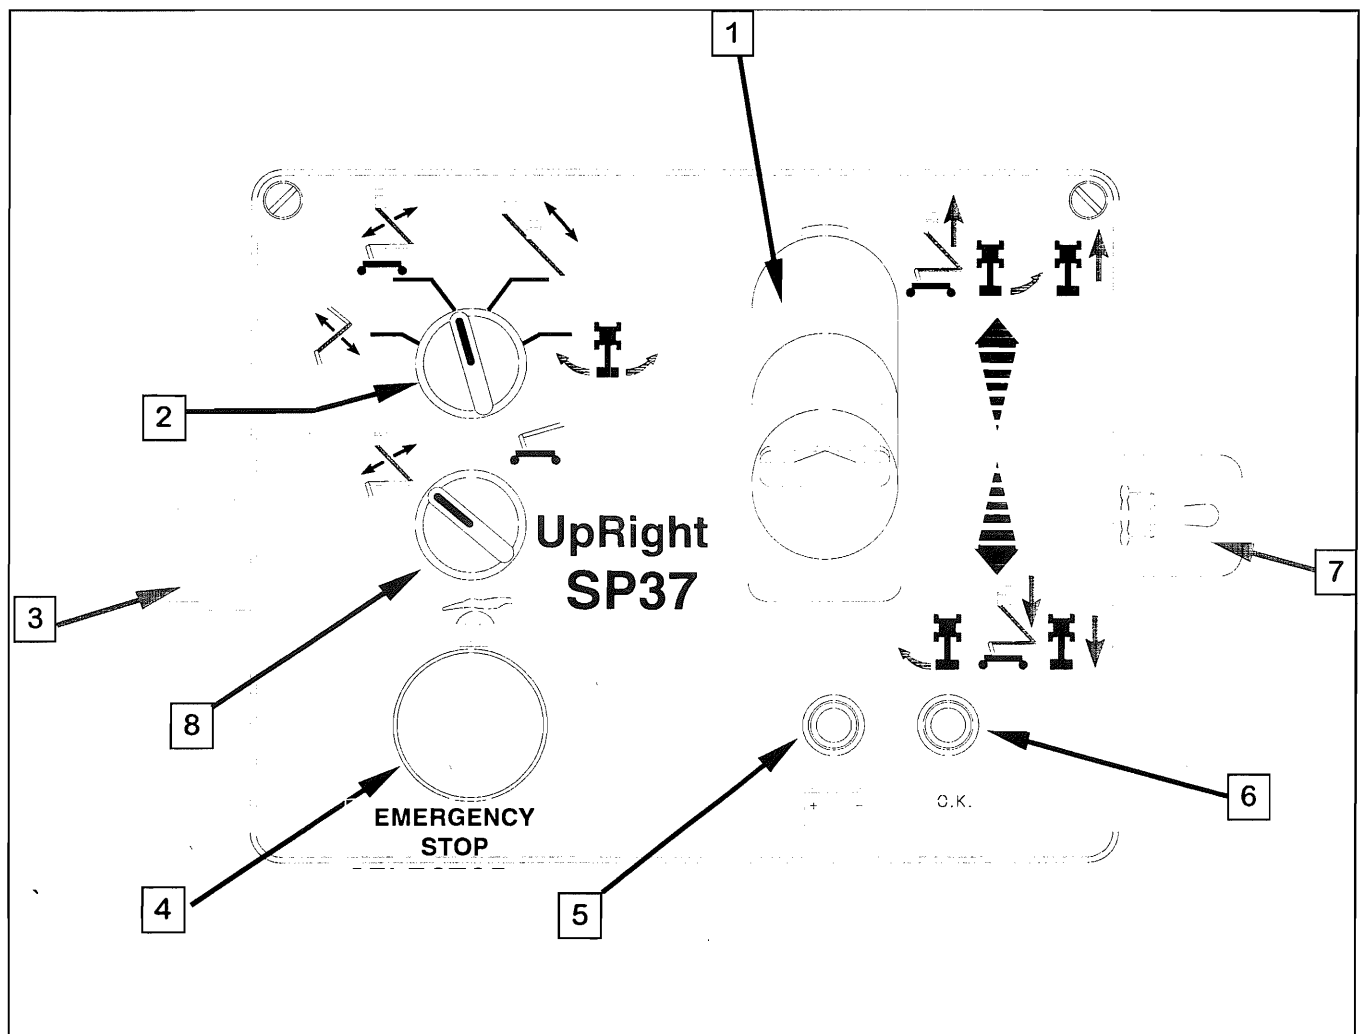

Figure 3-1: Platform Controls
The controls and indicators for operation of the SP37 Work Platform are shown in Figures 3-1 & 3-2. The name and function of each control and indicator are listed in Tables 3-1 & 3-2. The index numbers in the figure correspond to the index numbers in the table. **The operator should know the location of each control and indicator and have a thorough knowledge of the function and operation of each before attempting to operate the unit.**
7. Pull out both chassis and platform emergency stop buttons to turn ON (Figure 3-1 & 3-2).
The emergency override switch (fig. 3-1) can be used to bring the machine into a non-tilted position and restore power. The switch is momentary which means that it must be held in position while operating the necessary function.
The platform can be levelled from the Upper controls using the levelling switch (see Figure 3-1)